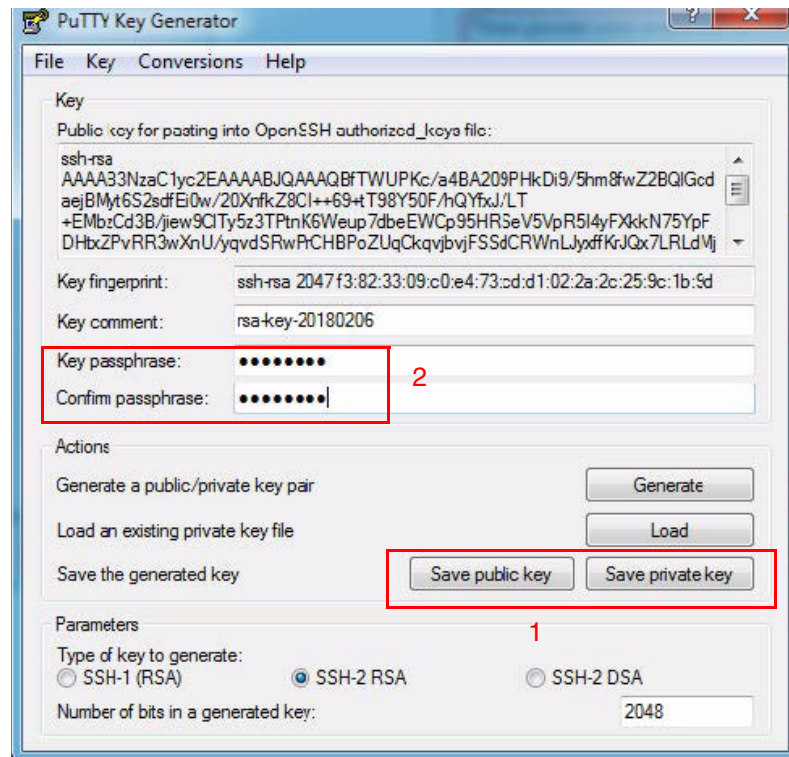

Figure A-3 Save keys
After the keys have been created, save the public key as .pub and the private key as .ppk (1). A passphrase (2) can be specified to increase security, as shown in Figure A-3.